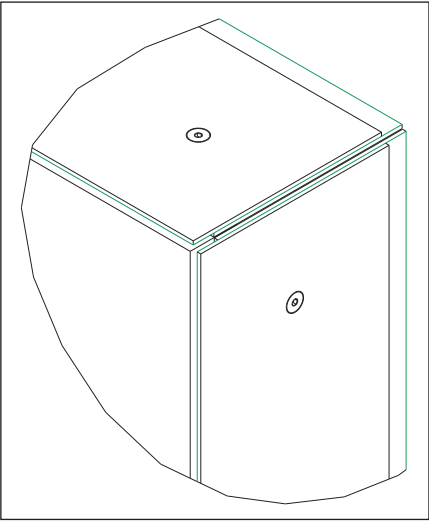

Figure 6: Adjust Border Spacer
6. Adjust the border spacer back to the wall by up to 1/2" (if necessary) to fill any gaps that were created while adjusting the display with shims and jacking hardware. Refer to **Figure 6**.